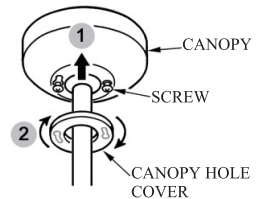

FIG.9
5. Place the canopy hole cover over the screws and twist the cover to tighten. (see Fig.9)